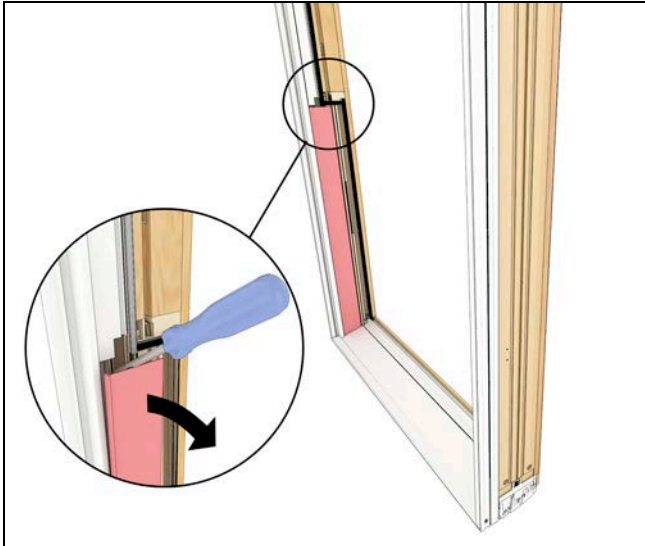

Figure 66
1. Remove exterior single hung covers with flat screw driver. See Figure 66.